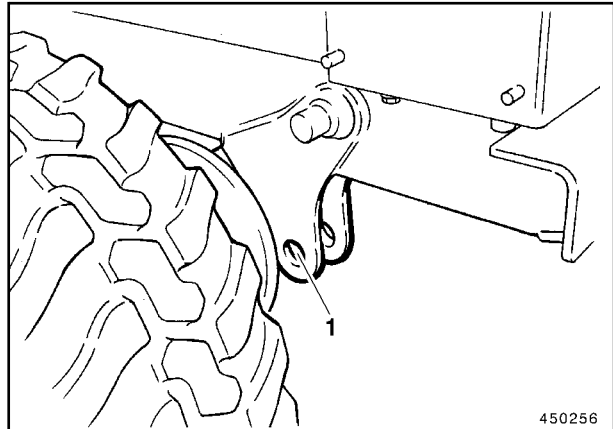

Fig. 2
Tie-down points: see figures 2 to 4.
- If the rear ripper is not attached, the machine can be tied down using the openings (1 and 2) shown in figs. 2 and 3.